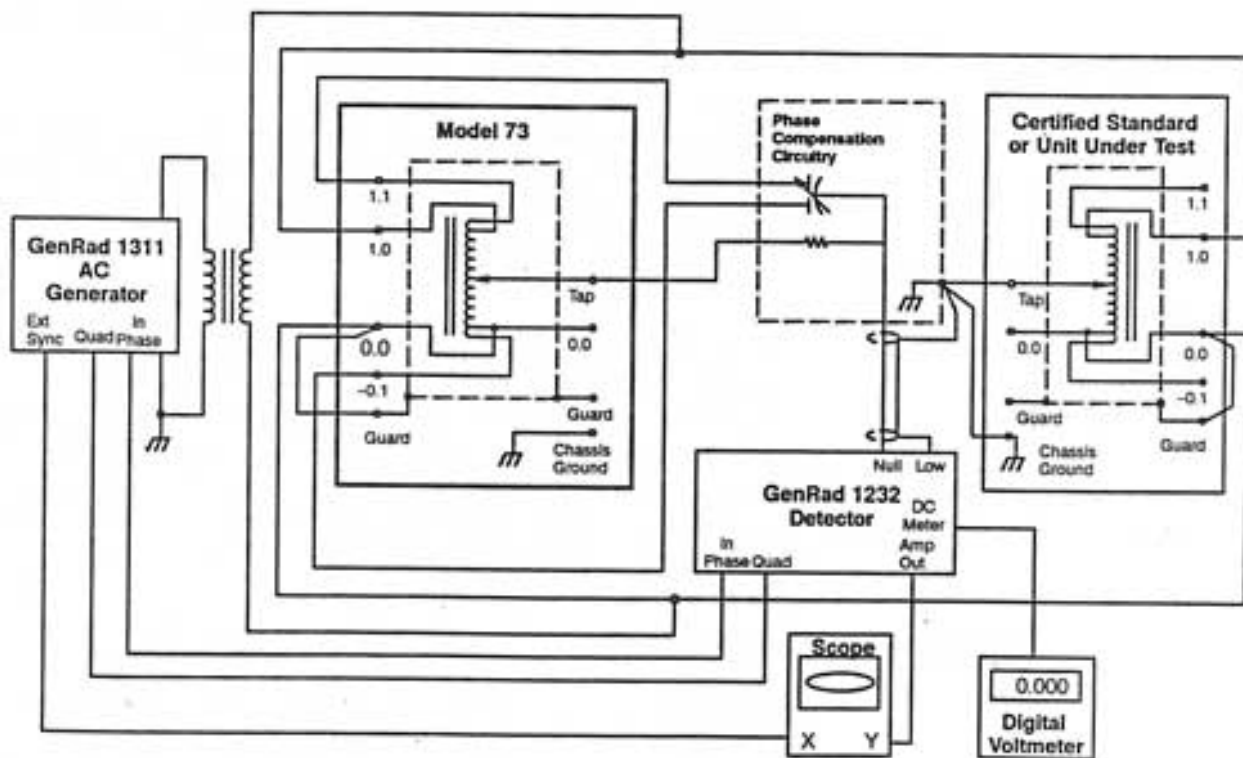
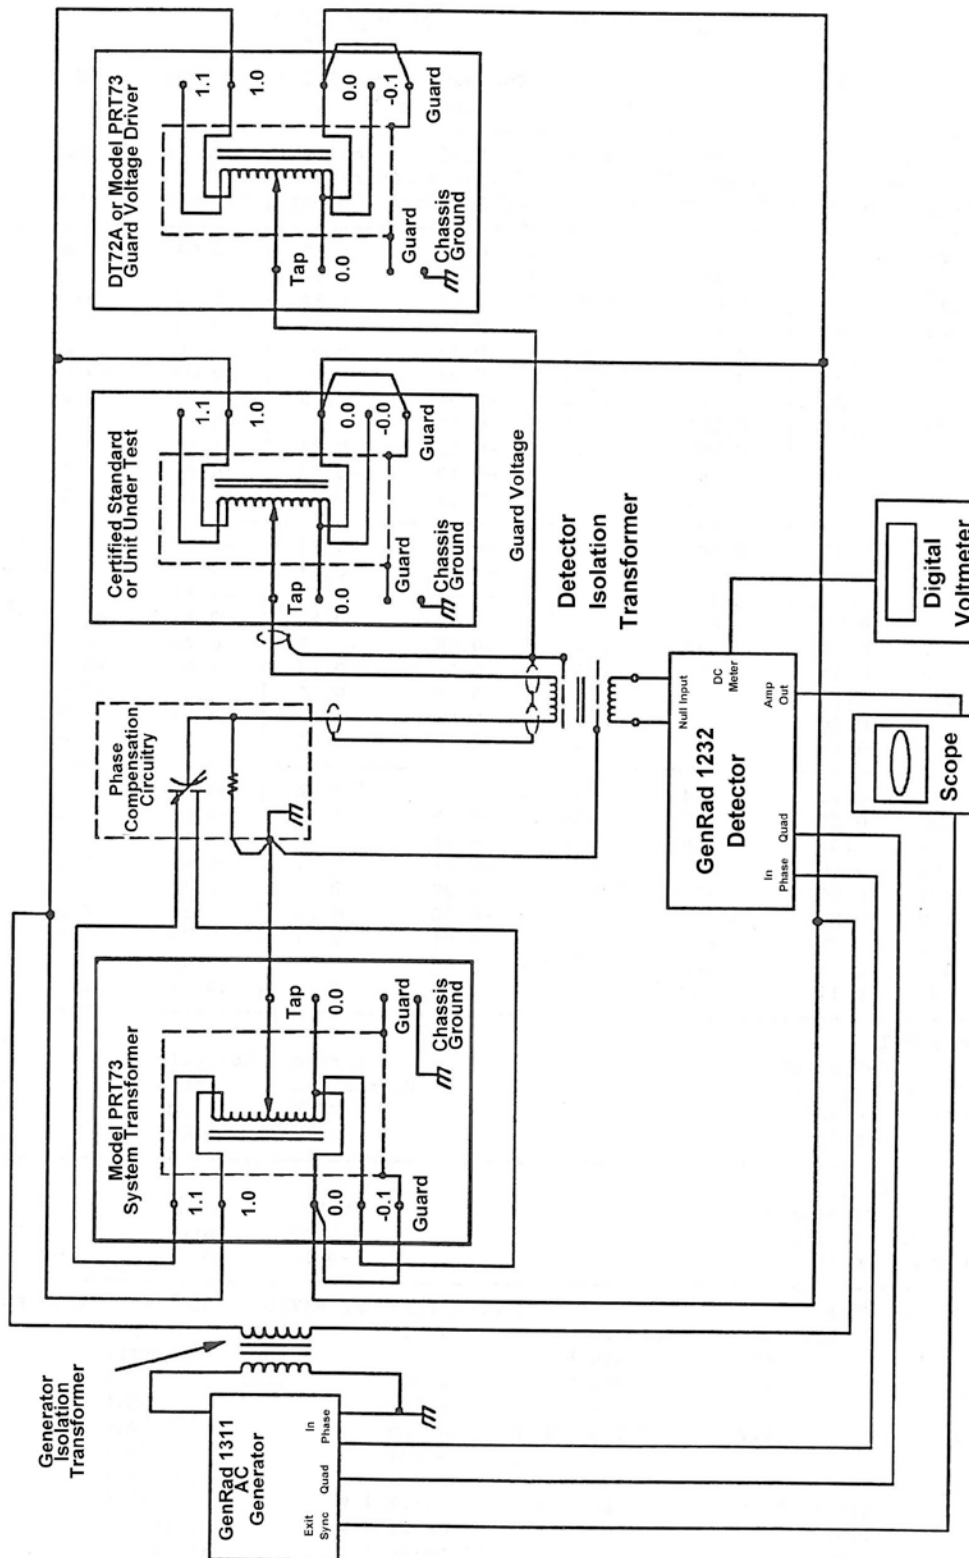

Figure 8-2. Alternate Test Equipment Setup for Testing Linearity.
Figure 8-3. Test Equipment Setup for Testing Linearity
The test system setup is shown in Figure 8-3. This is a generic representation of the equipment setup. Refer to the specific equipment's documentation for detailed connections. An alternate system setup is shown in Figure 8-2. The alternate setup does not use the detector isolation transformer which may affect the accuracy of your incremental linearity measurements depending on the type of equipment used. When you are making measurements at 5 kHz or greater, you may need to remove the connection between the low input and guard on the certified standard to reduce high and low end offset errors in your measurements.
NOTE: The alternate setup shown in Figure 8-2 does not use the detector isolation transformer which may affect the accuracy of your incremental linearity measurements depending on the type of equipment used. When you are making measurements at 5 kHz or greater, you may need to remove the connection between the low input and guard on the certified standard to reduce high and low end offset errors in you measurements.
1. Set up the test system as shown in Figure 8-3 or Figure 8-2 with the certified standard in place of the UUT. All test equipment is setup for measuring the deviation between the test system ratio transformer and the certified standard at 100 V and 1 kHz (or 10V at 100 Hz).
5. Set up the test system as shown in Figure 8-3 or Figure 8-2 with the UUT in place of the certified standard. All test equipment is setup for measuring the deviation between the AC bridge transformer and the UUT at 100 V and 1 kHz (or 10V at 100 Hz).